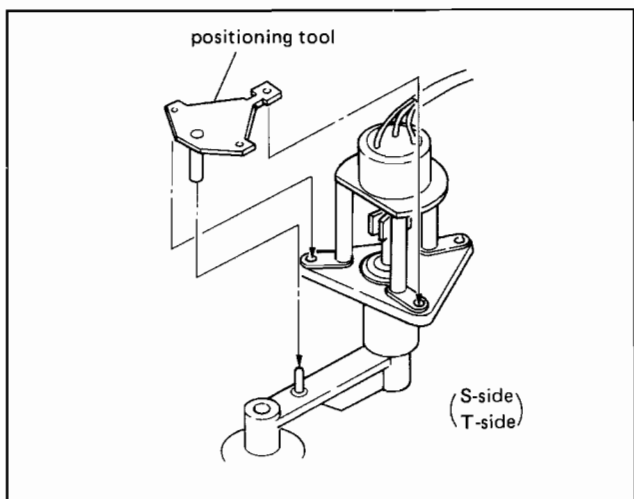

Fig. 5-1-1
- Fix the positioning tool to the removed tension arm ass'y T (S). See Fig. 5-1-1.